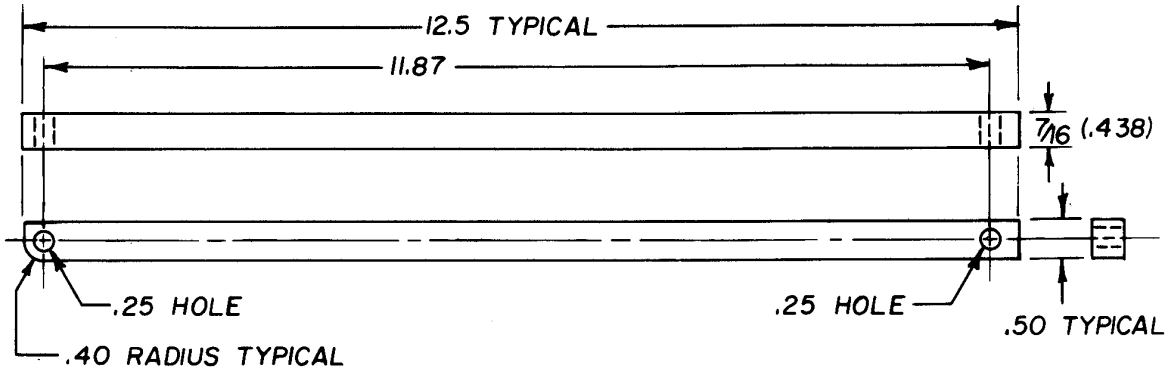

FIGURE 1- Bellcrank Locating Fixture
This modification requires constructing an alignment tool as shown in Figure 1. This tool can be constructed from any available material which is 7/16 inch thick and at least 12½ inches long.
2. Drill top two holes with #41 drill, remove drilling template, cleco new support bracket, 28-113072-1, to bulkhead. Install alignment tool (Ref. Figure 1), check alignment. With alignment tool in place drill lower two holes with #41 drill. Remove alignment tool. Open holes to .143 inch with #27 drill.
7. Bolt one end of the locating fixture (Figure 1) in the trim actuator support bracket with an AN4 bolt. Use an equal number of washers on each side of the fixture to center the fixture in the bracket. The other end of the fixture should be underneath the cyclic torque tube.